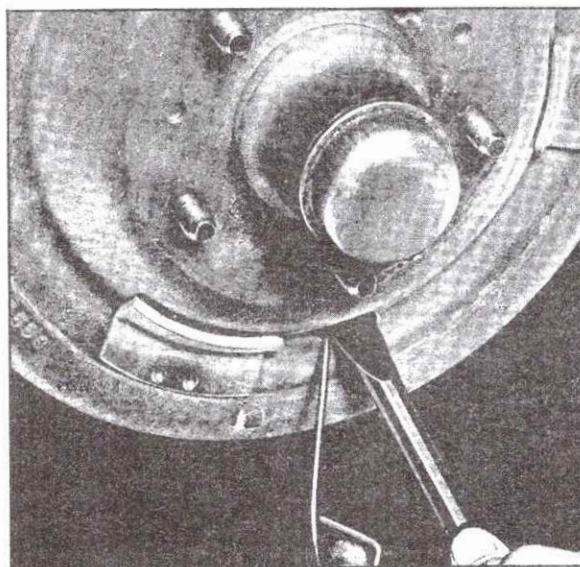

Fig. 5-3 Manual Brake Shoe Adjustment.
5. Disengage adjuster pawl from star wheel with a hooked tool and back off star wheel 40 notches with a screwdriver or brake adjuster tool, Fig. 5-3.